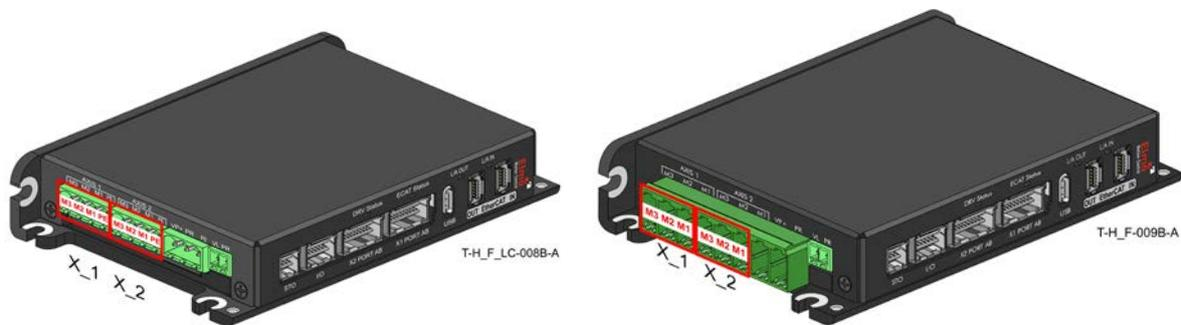

Figure 29: Connecting to the Motor Power
5. To connect two wires to the PE terminal, use a dual wire twin ferrule. Make sure not to bundle the wires. Figure 29 shows the terminals on the Titanium Harmonica.